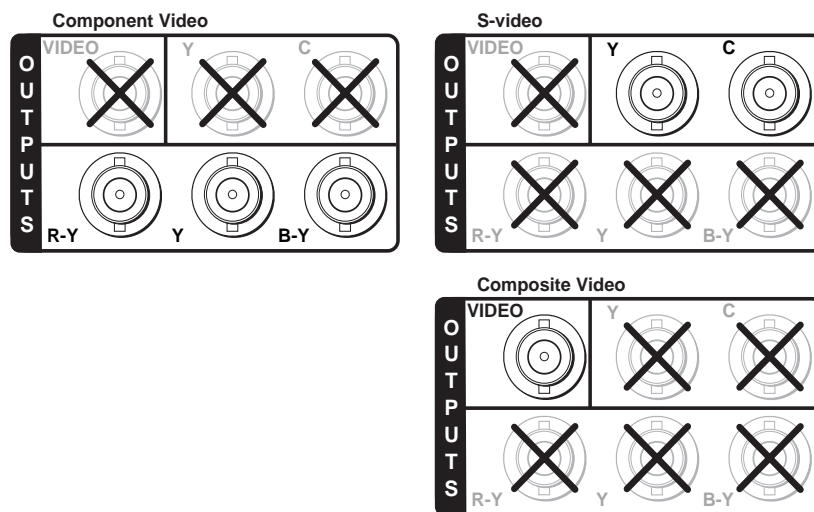

Figure 2-6 — Video output connections
- ④ **Output connectors** — Connect a component video, S-video, and/or composite video display device to these BNC connectors. Figure 2-6 shows how to connect the various video formats.